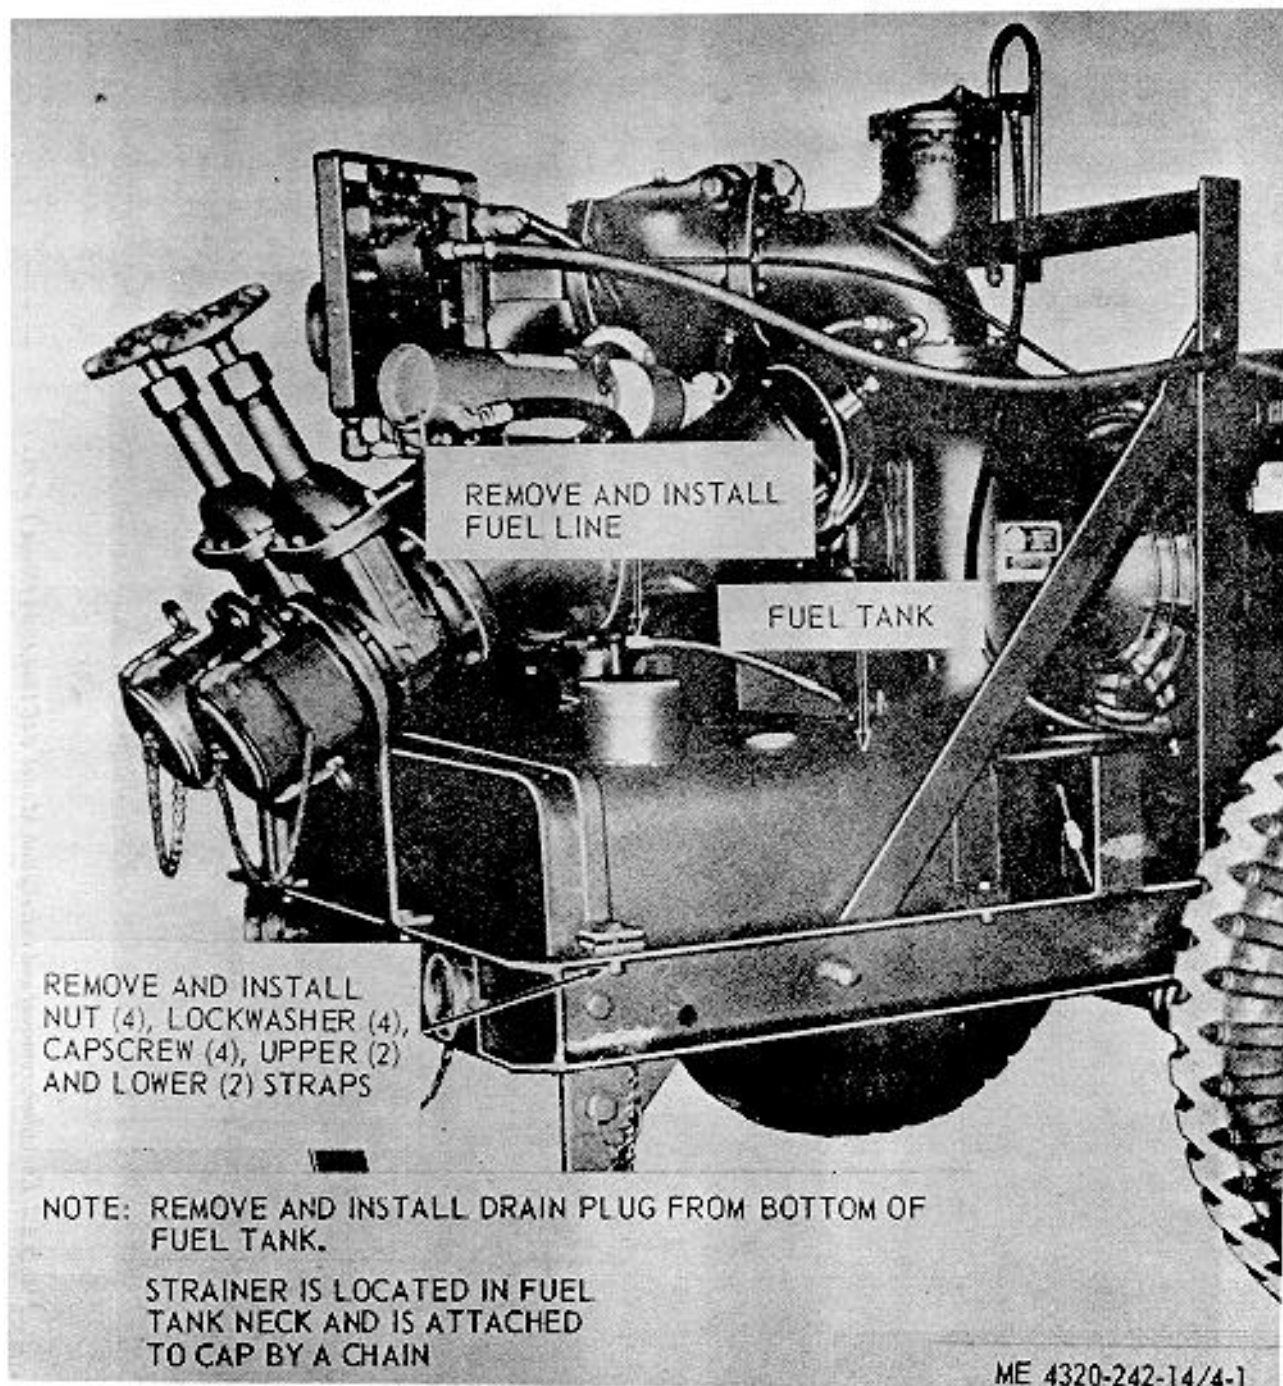

Figure 4-1. Fuel tank and fuel lines, removal and installation.
a. *Removal.* Refer to figure 4-1 and remove the fuel tank and fuel line.
(1) Wash all parts with cleaning solvent PD680. Dry thoroughly.
(2) Inspect for breaks, cracks, dents, loose or missing mounting hardware, damaged threaded areas, or other defects.
(3) Replace a damaged or defective tank or fuel line as necessary.
c. *Installation.* Refer to figure 4-1 and install the fuel tank and fuel line.